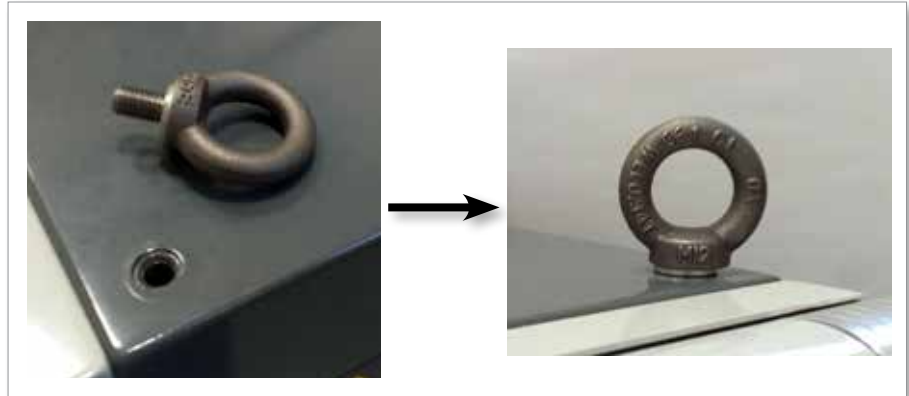

Figure 3-10 Install eyebolts and washers
6. Assemble eyebolts and washers and install into the holes on the top of the E-Multi controller. See Figure 3-10.